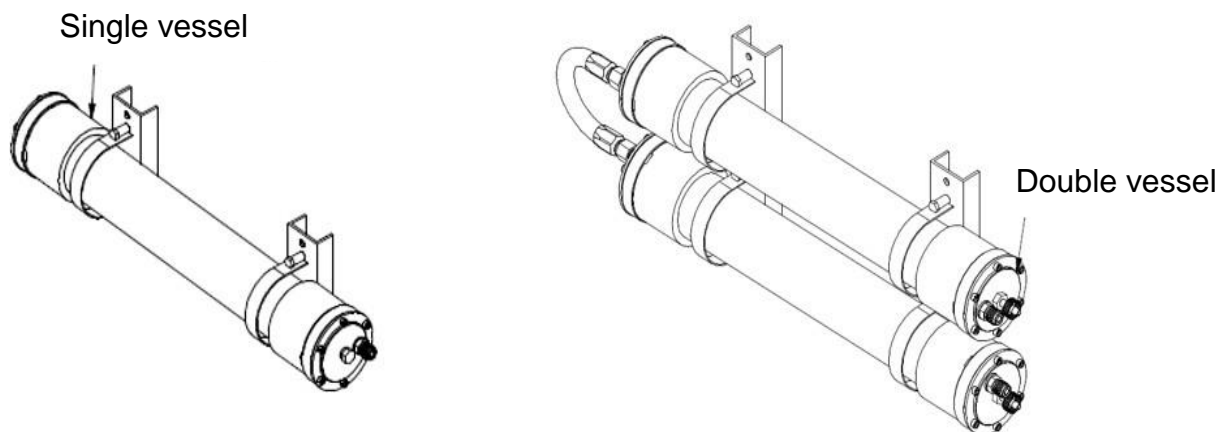

Figure 1.10: Vessel Assembly
- 7) Mount vessel assembly. Locate within distance for high pressure hose to end from the high-pressure (HP) pump and vessel assembly. If longer lengths are required, please contact Parker technical support. Figure 1.10 is shown as reference.
- 4) Membrane Product Inlet - Connect a PVC hose (or potable water hose), from membrane to manifold (SEE MEMBRANE PRODUCT INLET on figure 1.10).